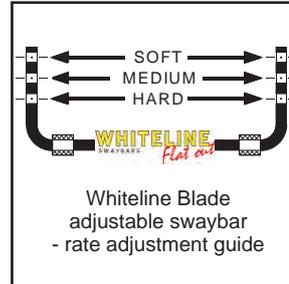
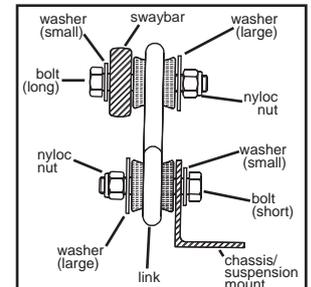

Figure 1.
Figure 2
11. Using new bolts, washers and links, connect the swaybar to control arm brackets, as shown in figure 2 & photo 2. Refer to figure 1 for swaybar adjustment guide.